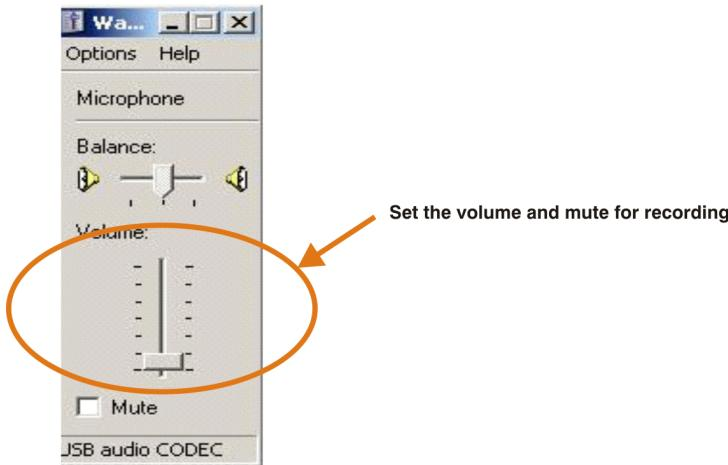

Figure 3-11. Microphone Volume Windows for Record Volume Setting (Windows XP)
3. Set the microphone volume and the recording mute level from -12 dB to +30 dB, as shown in Figure 3-11. The initial volume setting upon installation is approximately +8 dB.